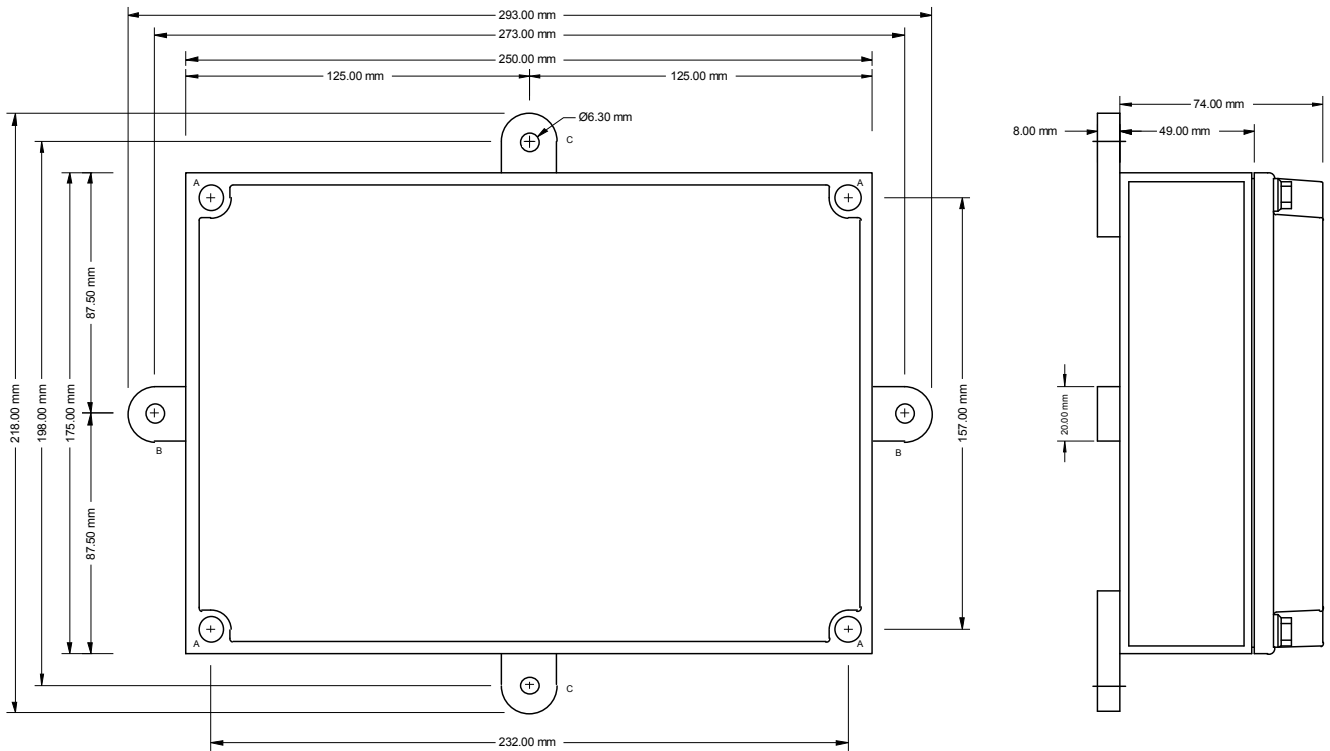

Figure 3
6.1.1. The MSR2-30 Charge Controller should be installed using either the two mounting feet or using the four fixing points which are hidden by the cover fixing screws (see Figure 3). Ensure that the fixing method employed is sturdy enough to support the weight of the Unit. Position the unit so that it is shaded from direct sunlight, sheltered from extreme weather conditions and oriented so that the cable glands are pointing downwards.